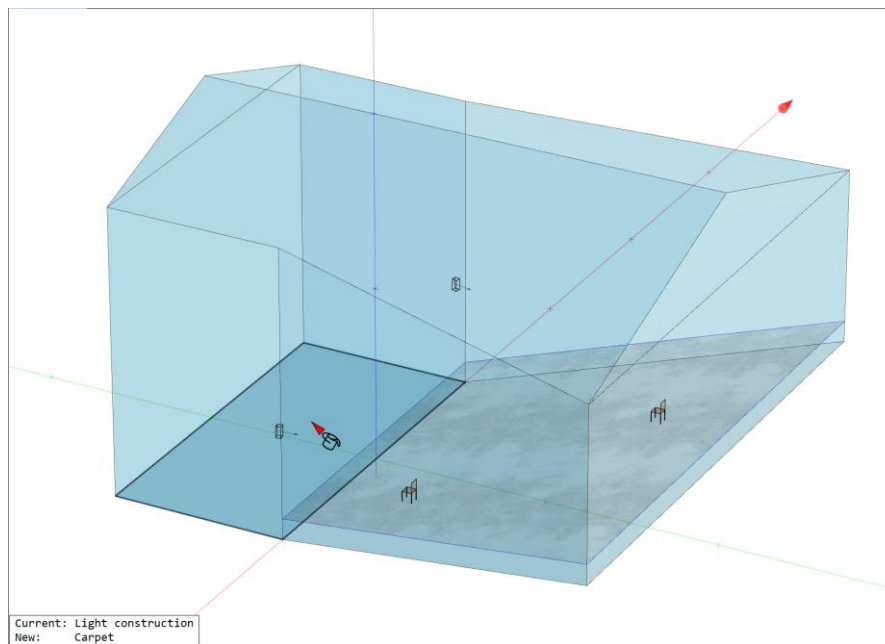

Figure 8.4 Replacing the material assigned to a face. The status text in the lower left shows the current material as well as the new one.
1. If there are no faces currently selected when you choose an item from the list, the drop-down will be removed and the mouse cursor will change to a paint bucket. In this mouse mode, materials can be assigned to faces by selecting the faces in the 3D view (Figure 8.4). Note that when hovering over a face the status text will show the previous material and the new material.